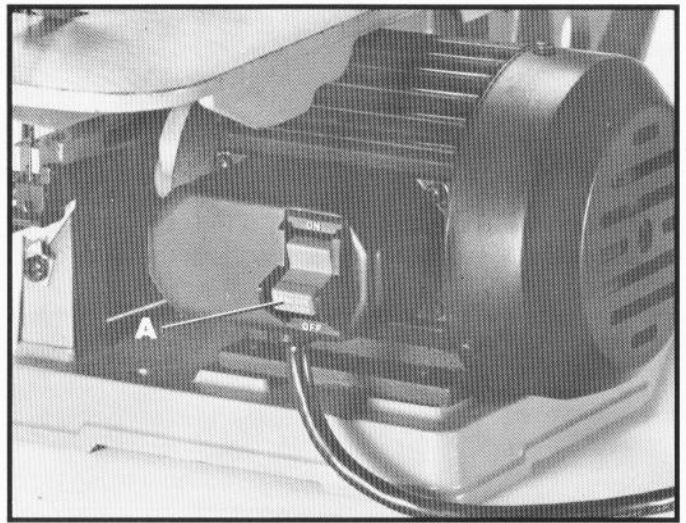

Fig. 14
The switch (A) Fig. 14, is located on the motor. To turn the saw "ON" move the switch to the up position. To turn the saw "OFF" move the switch to the down position.